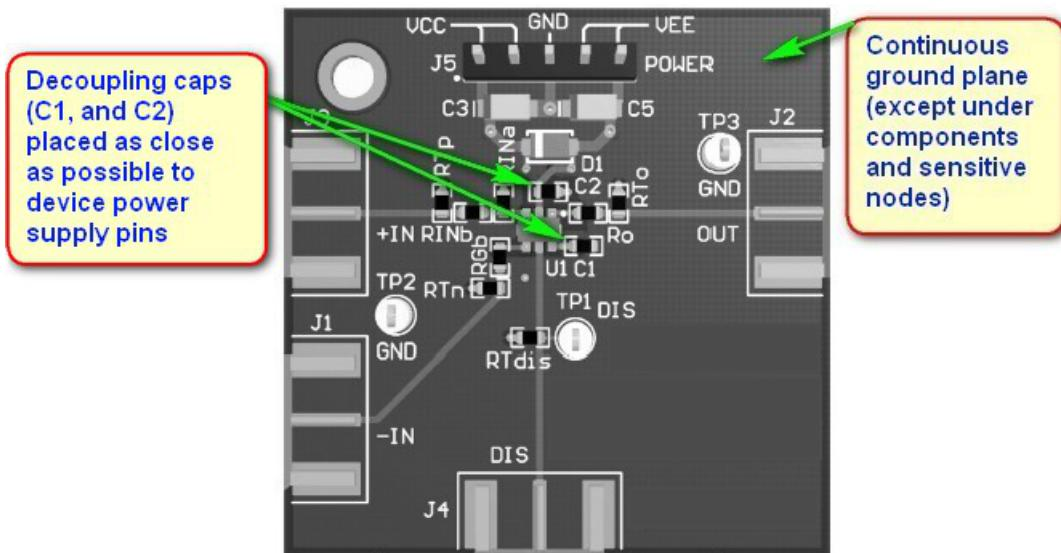

Figure 28. LMH6702 Evaluation Board Layer 1
- Continuous ground planes are preferred for signal routing with matched impedance traces for longer runs. However, open up both ground and power planes around the capacitive sensitive input and output device pins as shown in Figure 28. After the signal is sent into a resistor, parasitic capacitance becomes more of a bandlimiting issue and less of a stability issue.
- Use good, high-frequency decoupling capacitors ($0.1 \mu\text{F}$) on the ground plane at the device power pins as shown in Figure 28. Higher value capacitors ($2.2 \mu\text{F}$) are required, but may be placed further from the device power pins and shared among devices. For best high-frequency decoupling, consider X2Y supply-decoupling capacitors that offer a much higher self-resonance frequency over standard capacitors.